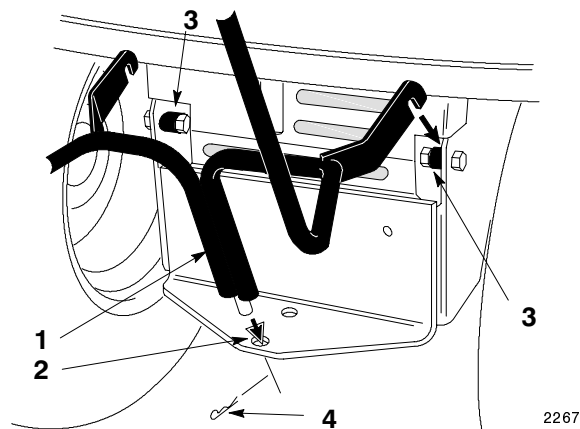

Figure 31
4. Remove the hairpin cotter and slide the bottom of the quick-attach bracket up out of the hole in the hitch and unhook from the spacers located inside the tractor frame (Fig. 31).